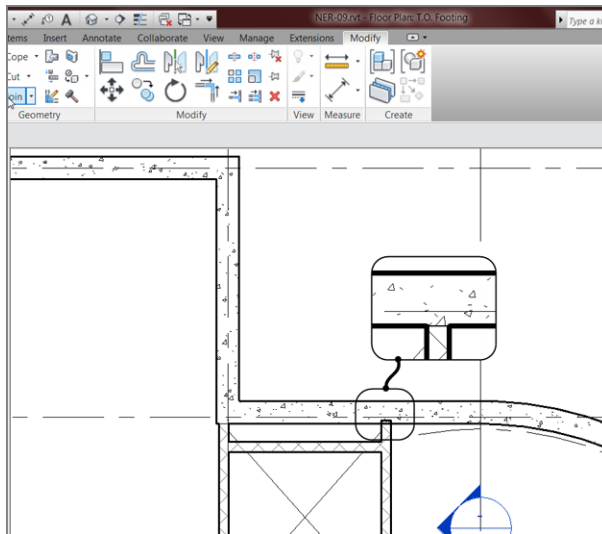

FIGURE 8.55: Joining the walls so the foundation walls terminate as expected
5. The masonry wall to the right needs to be joined to the foundation wall. To do this, click the Join Geometry button on the Modify tab, as shown in Figure 8.55.